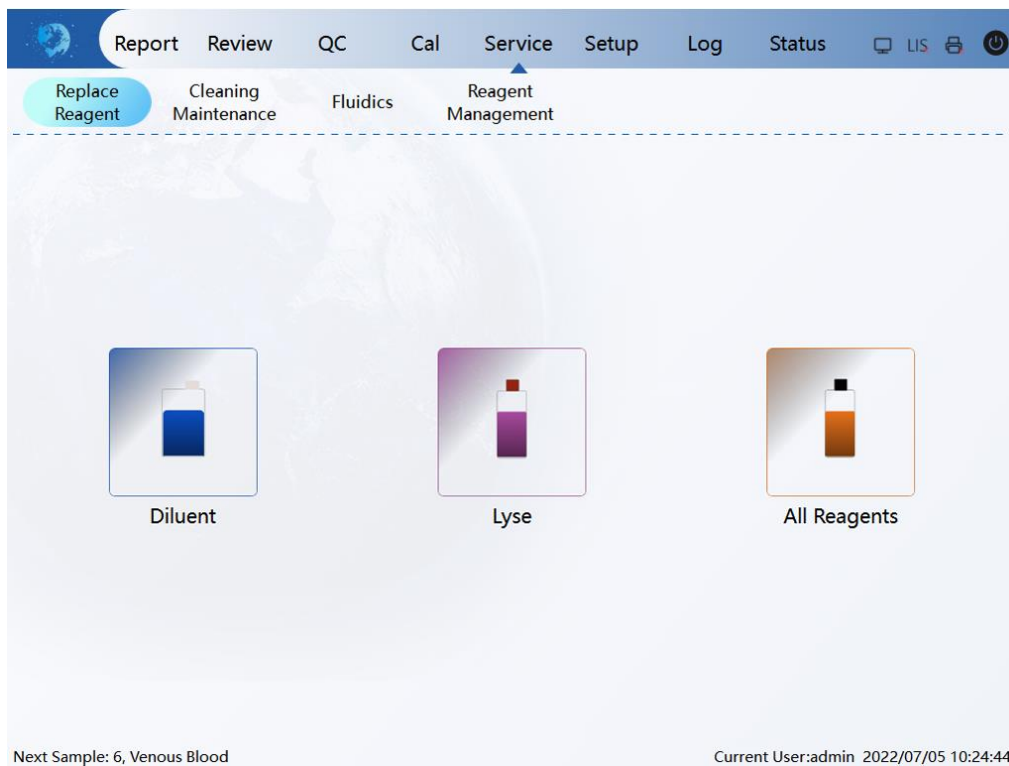

Figure 9-1 Replace reagent
1. Click "Service > Replace Reagent" to enter the interface shown in Figure 9-1.